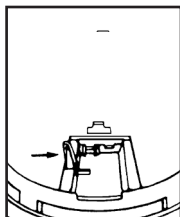
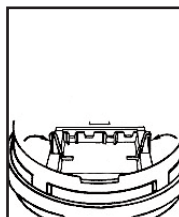

FIGURE 7
FIGURE 7A
5. When installing the battery, press the battery reminder finger down into the battery compartment and install the battery (see figure 7 and figure 7A for the i9080EU alarm).